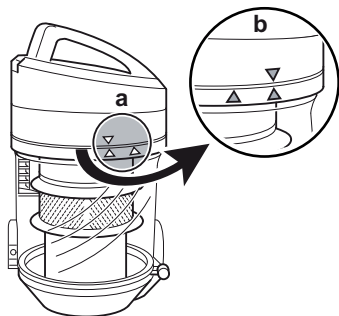

Fig. 24
3. Hold the dust container firmly with one hand and release the cyclone unit with the other hand by turning on the handle counter-clockwise (Fig. 24/arrow). The placement mark will change position as shown (Fig. 24/a→b).